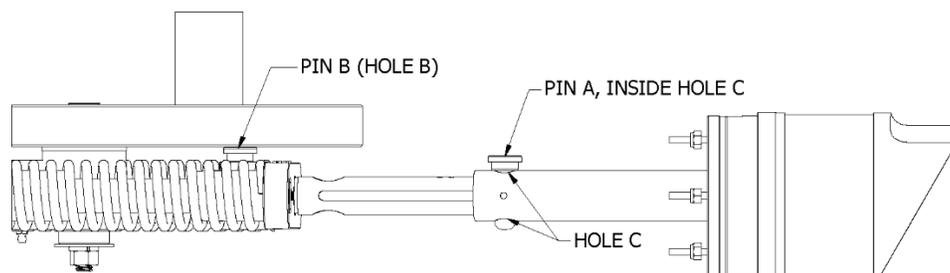

Figure 8: Hole C Location
4. Continue to crank **COUNTERCLOCKWISE ONLY** until the connecting rods extend, the spring load is in its rearmost position, and Pin Hole C (Figure 8) is revealed.
5. Place Pin A into Hole C. (Figure 8)